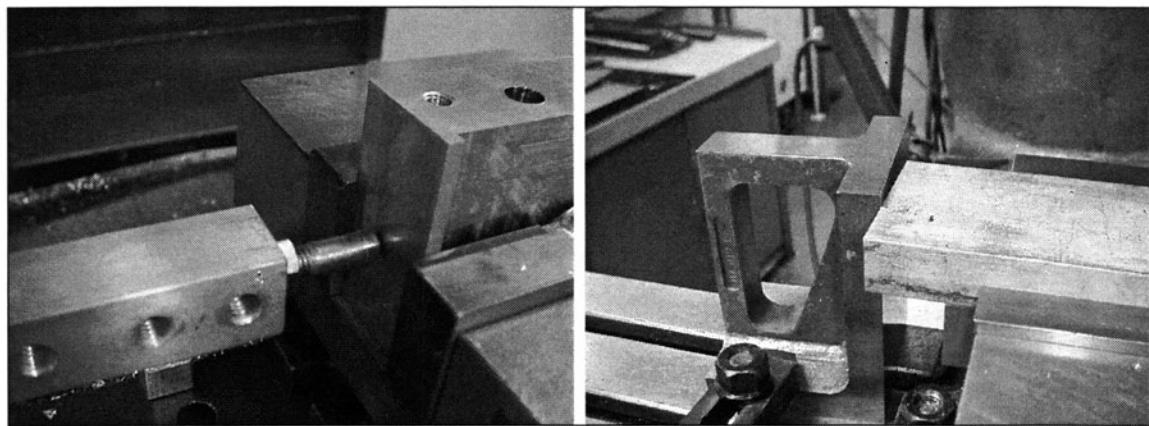

FIGURE 6-29 Work stops should be constructed with minimal contact area to avoid trapping chips.
41. Use stops with minimal surface contact area. (See Fig. 6-29)